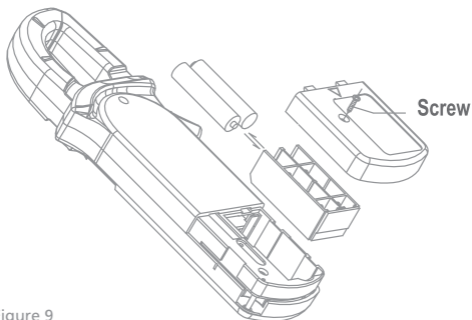

Figure 9
B. Replacing the Battery (Figure 9)